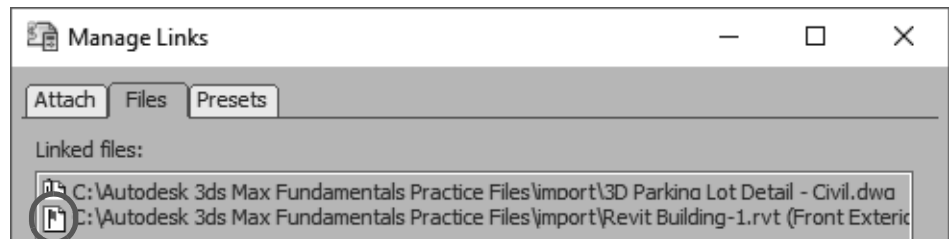

Figure 3–45
5. In the Manage Links dialog box, select the *Files* tab. Note that  displays in front of the .RVT filename (as shown in Figure 3–45), indicating that changes have been made to the original linked file.